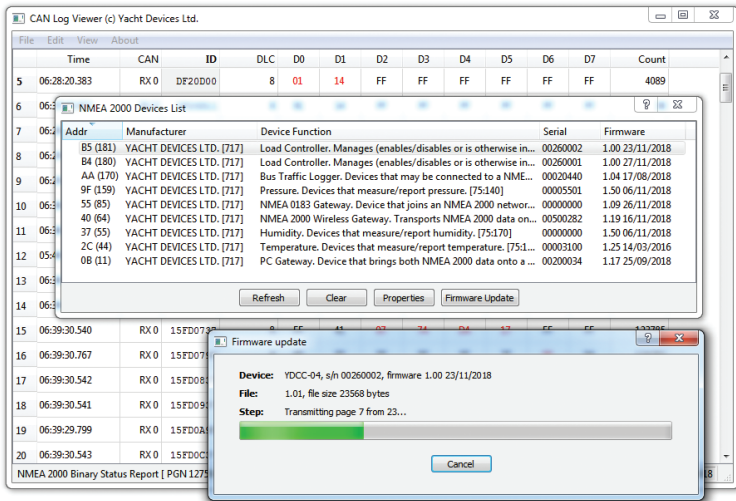

Figure 1. Firmware update of Circuit Control YDCC-04
2. Click the «Refresh» button (see Figure 1 at the next page) in the opened window and wait for the Device to appear in the list.